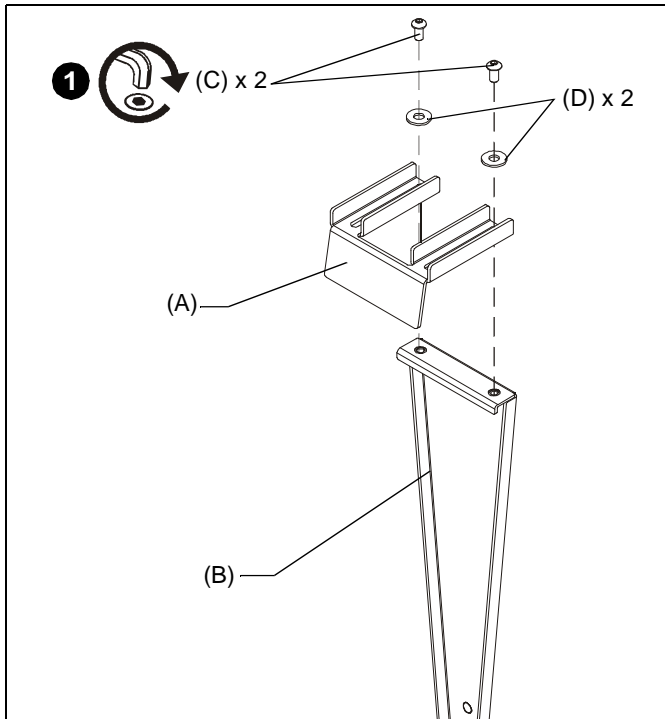

Figure 1
1. Assemble one hook bracket (A) to one vertical bracket (B) using two 1/4-20 x 1/2" button head cap screws (C) and two 1/4" flat washers (D). (See Figure 1)